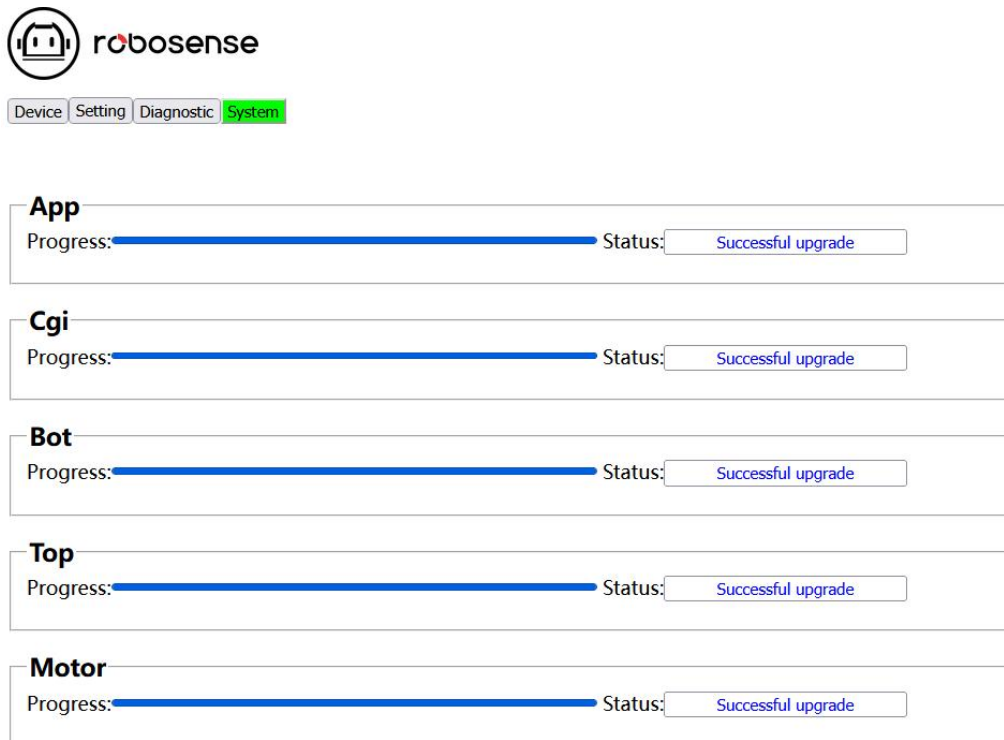

Figure 22 Step 4 - Upgrade Successful
- 4) The web interface will prompt the upgrade success (or indicate if there is a duplicate version). The product will automatically restart. After the restart, log in again to the web interface homepage and check the Device section to confirm if the upgrade was successful, as shown in Figure 22 .